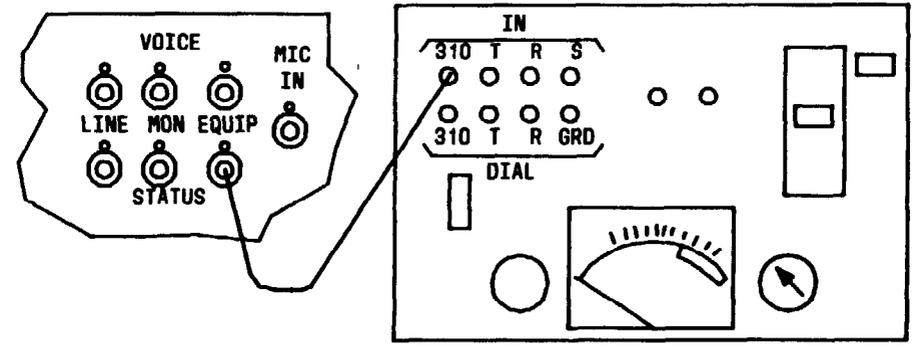

FIG. 1
- [5] SEE FIG. 1. CONNECT NOISE MEASURING SET TO STATUS EQUIP JACK OF TRANSMITTER